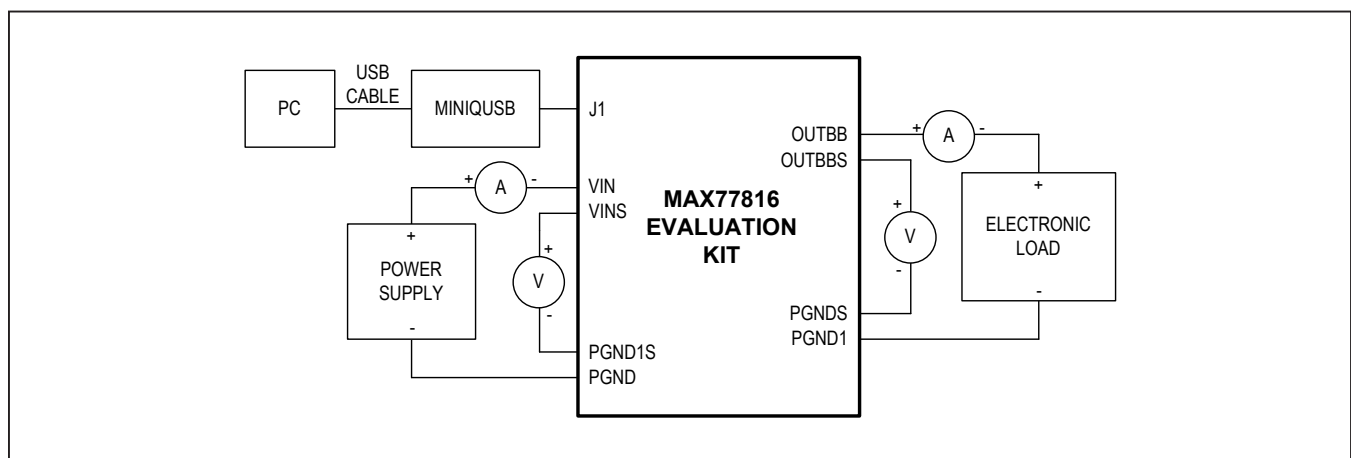

Figure 2. Quick Start Connection Diagram
- 3) Set up the test circuit as shown in Figure 2. Adjust the ammeters to their largest current range to minimize their series impedance. Do not allow the